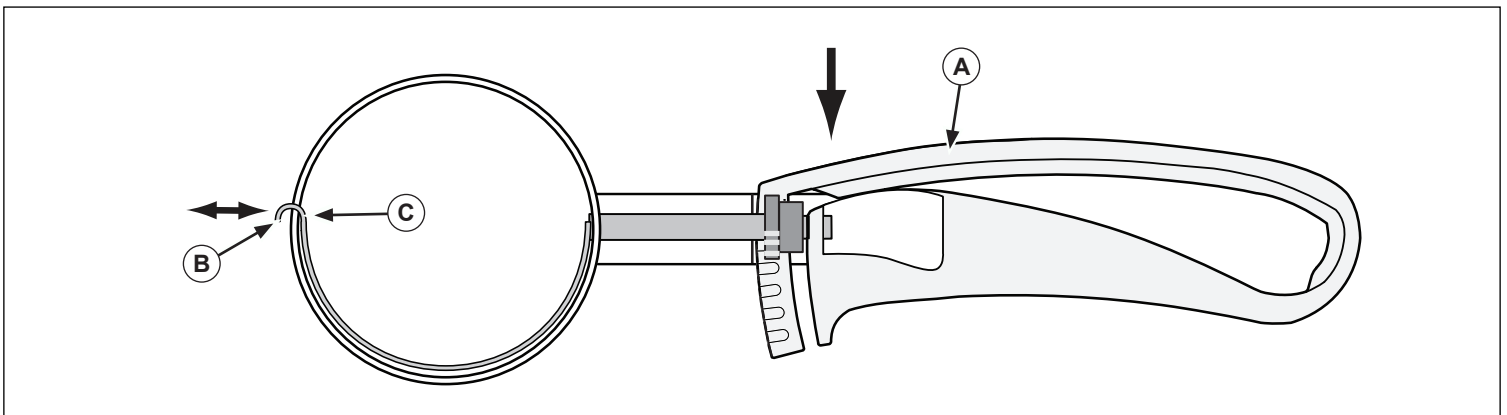

Figure 3. Handle, Sweep Hook and Outside Bowl Hole.
3. Continue to hold the handle (A) down in the fully compressed position. Push the hook end of the sweep (B) through the hole (C) to the inside of the bowl. See Figure 3.
10. Hold the handle (A) down. Push the hook end of the sweep assembly (D) into the hole (C). See Figure 3.